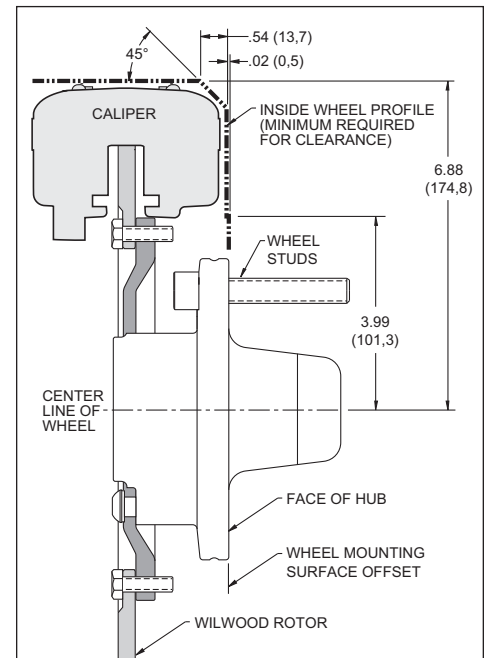

Figure 3. Wheel Clearance Diagram
- Review the wheel clearance diagram (figure 3, page 5) to verify that there is adequate clearance with the wheels you will be using with the installation. This kit will result in the wheels being moved out approximately .50" beyond the stock location.